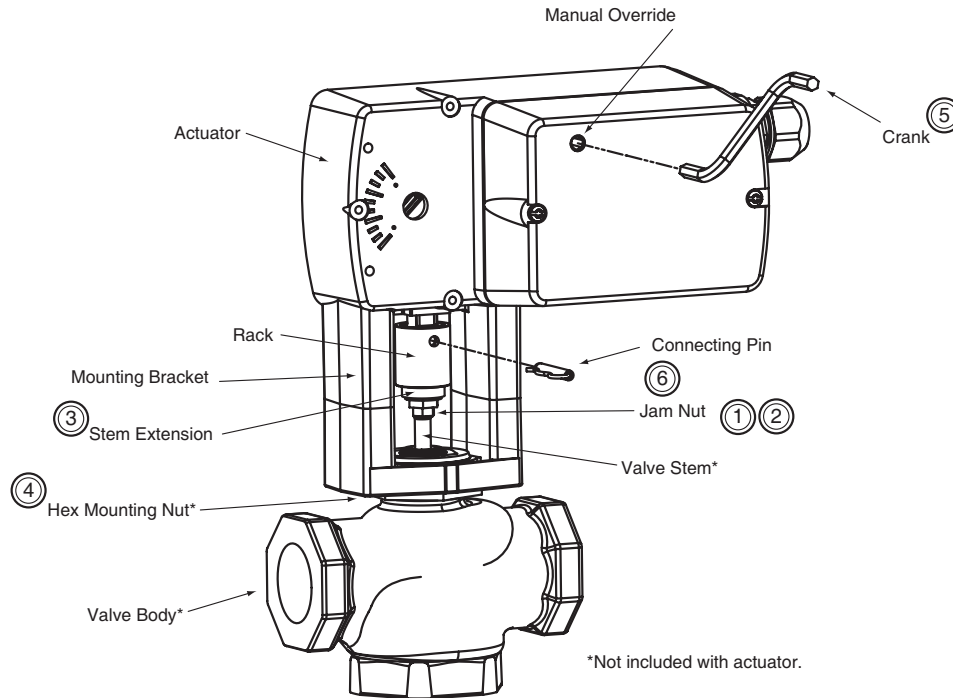
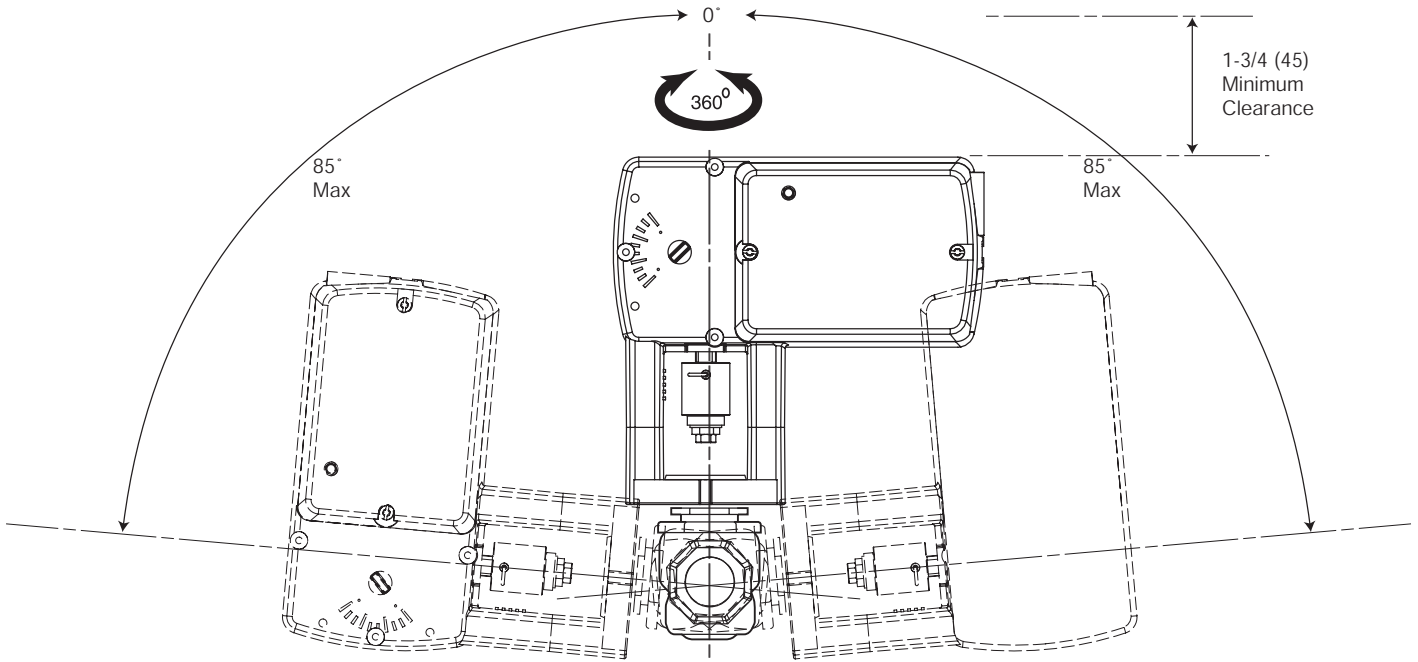

Figure-10 Mx51-710x Series Actuator Exploded View
Figure-11 Acceptable Mounting Orientations for Non-Steam Applications
- It is preferable that the actuator is mounted above the valve body. This will minimize the risk of damage to the actuator in the event of condensation or a valve leak. Refer to Figure-10.
- Preload the valve to insure proper close-off according to the numbered steps in Figure-10 and the text below. (Remove power before proceeding.)
The valve should be mounted in a weather-protected area, in a location that is within the ambient temperature limits of the actuator. The installation of the actuator assembly should provide clearance on all sides to allow for any maintenance that may be needed (see Figure-10 and Figure-11).
- For non-steam application the globe valve assembly must be mounted so that the actuator is at least 5° above the horizontal (Figure-11) to ensure that any condensate that forms will not travel into the mounting bracket or actuator.